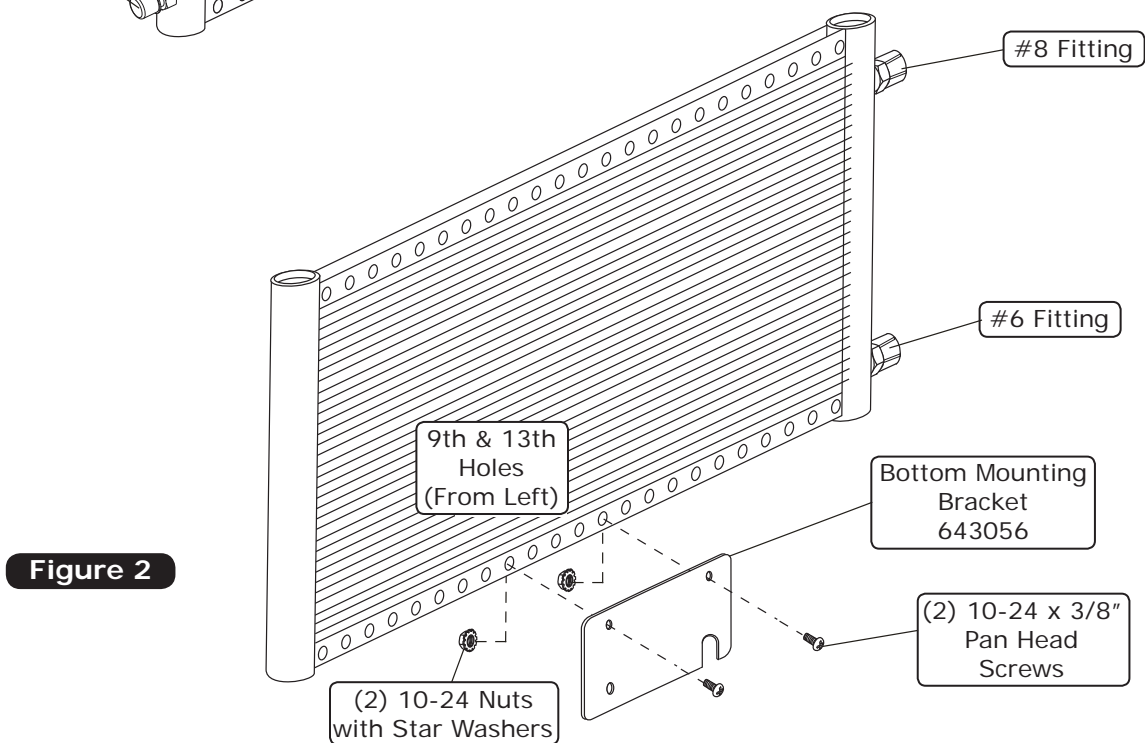

Figure 2
2. Install the bottom mounting bracket onto the condenser using (2) 10-24 x 3/8" pan head screws and (2) 10-24 nuts with star washers as shown in Figure 2, below. **NOTE: The bracket mounts through the 9th and 13th holes from the left side of the condenser (Rear View).**